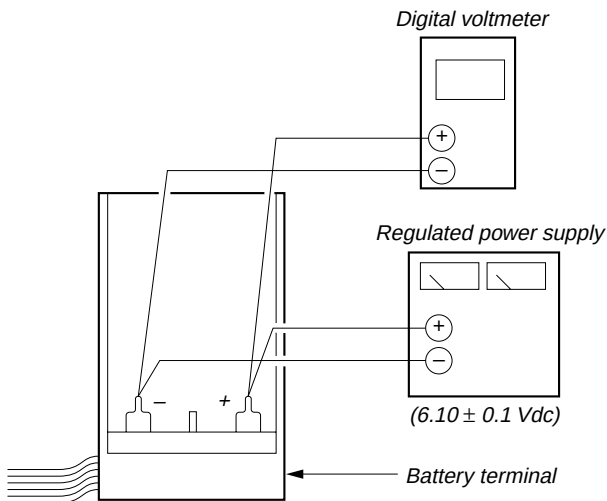

Fig. 5-1-18
- 1) Connect the regulated power supply and a digital voltmeter as shown in Fig. 5-1-18.